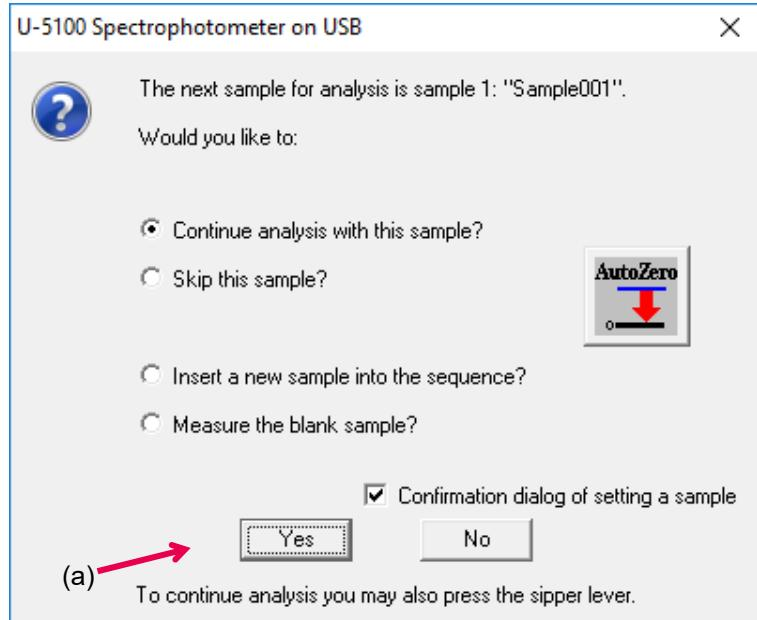

Fig. 4-60
- (a) A window/message box is displayed as shown in Fig. 4-60. Follow the reported messages. Measurement can be carried out by clicking **Yes** and **OK** in order.